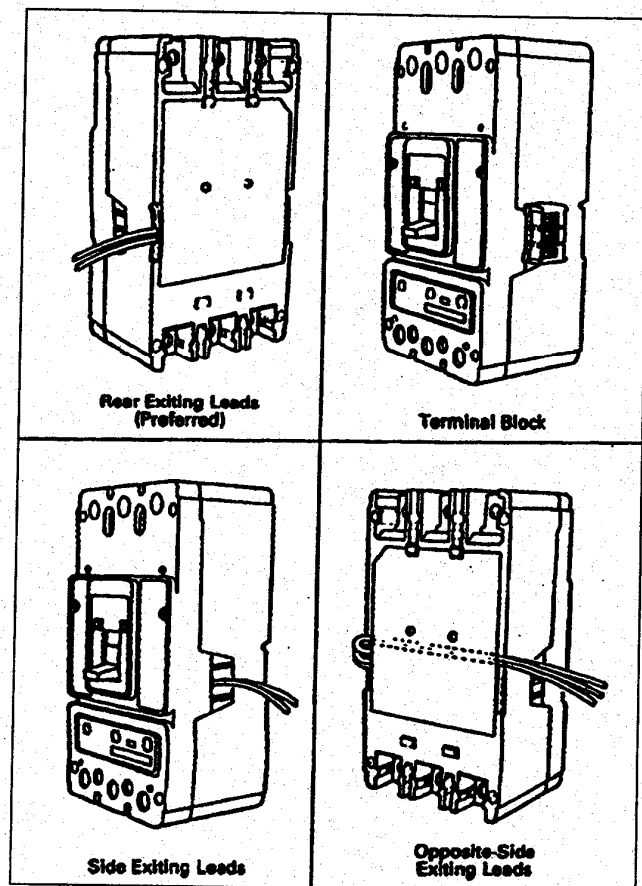

Fig. 2-4. Accessory Wiring Options
Note: For a UVR having rear or opposite-side exiting pigtail leads, (Fig. 2-4) thread leads through center trough in side of base before attempting to insert the mounting bracket. Pigtail leads exiting in this manner should be eased through trough as mounting bracket is inserted into trip unit retaining slots. Use center trough also for leads exiting the side of the circuit breaker.
- 2-8. Route wiring to meet installation requirements (Fig. 2-4). If required, complete routing of leads to opposite side through rear wiring trough.